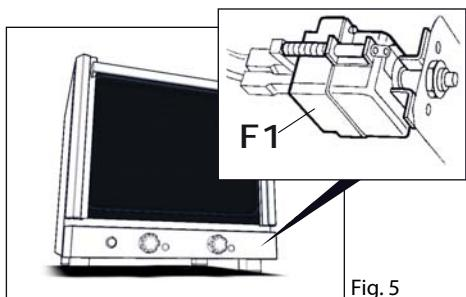

Fig. 5
• Cabinet safety thermostat (if present): in case of overheating of the cooking cabinet, it intervenes by cutting off the chamber heating. The safety thermostat (**F1 - Fig. 5**) may be reactivated only in manual by pressing the red button after having removed the front panel in order to reach the component. Before executing the operation make sure you have disconnected the power supply.